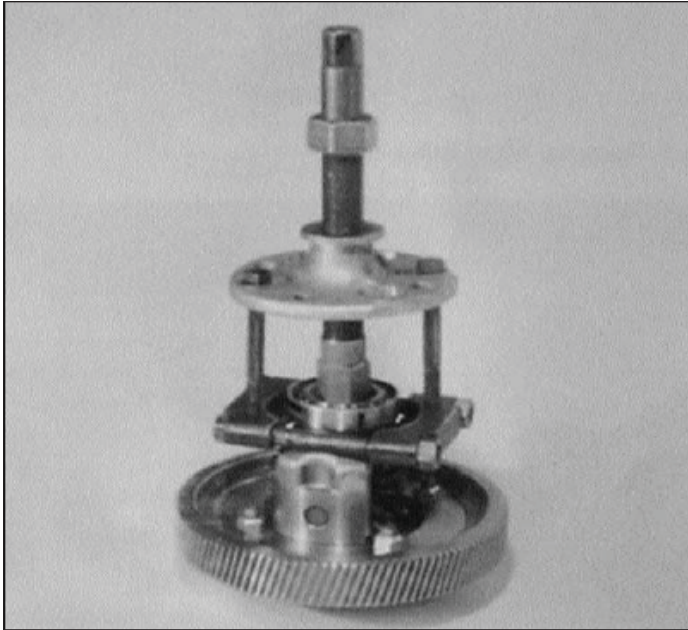

Figure 6-41. Removing Differential Bearings
6. Using a bearing puller, remove differential bearings (8) from each side of the differential case (Figure 6-41).